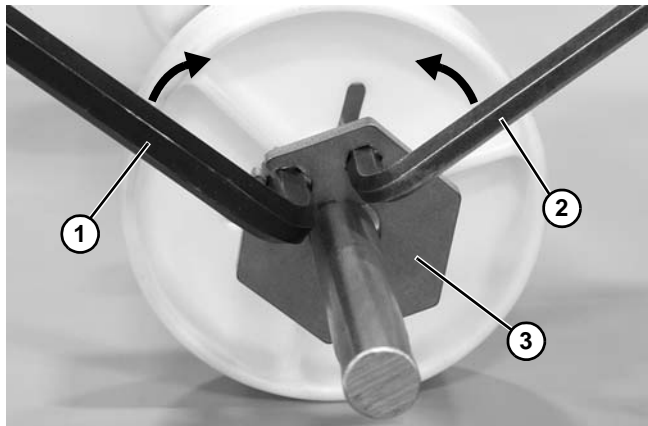

Figure 116
- a. Insert an 8 mm (**Figure 116, item 1**) and 6 mm (**Figure 116, item 2**) hex wrench into the retainer plate.
- b. Move wrenches toward each other to open the retainer plate (**Figure 116, item 3**) and install onto the shaft. Position retainer plate where needed.